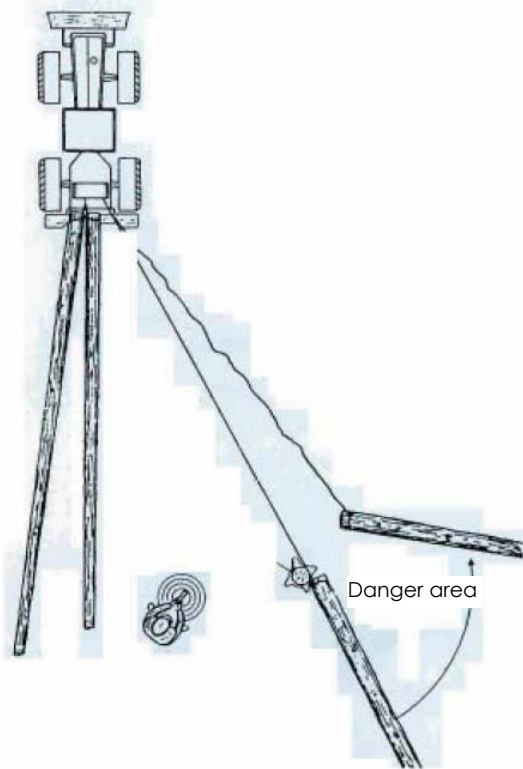

Figure 6
36. The winch can be operated only from a safe position, where the operator is not exposed to the danger of the load, rope, hook or the winch itself. A safe place is also the tractor seat, if the winch is fitted with an appropriate sized safety net. When operating the winch outside the tractor seat, the operator of the winch must have sufficient protection, e.g. with the tractor itself, with a safe position with adequate distance from the vehicle, e.g. behind a tree. Timber can be attended to from the side by the connection; shorter wood can be attended to diagonally behind the load (figure 6).